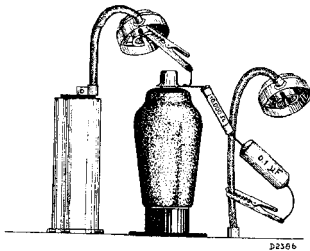

Fig. 2A.
10. Remove damping and then damp S21 with 10,000 ohms and 0.1  $\mu\text{F}$  between grid of L2 and chassis (see Fig. 2A). Damp S22 with 25,000 ohms and 0.1  $\mu\text{F}$  between anode pin of L2 and the chassis.